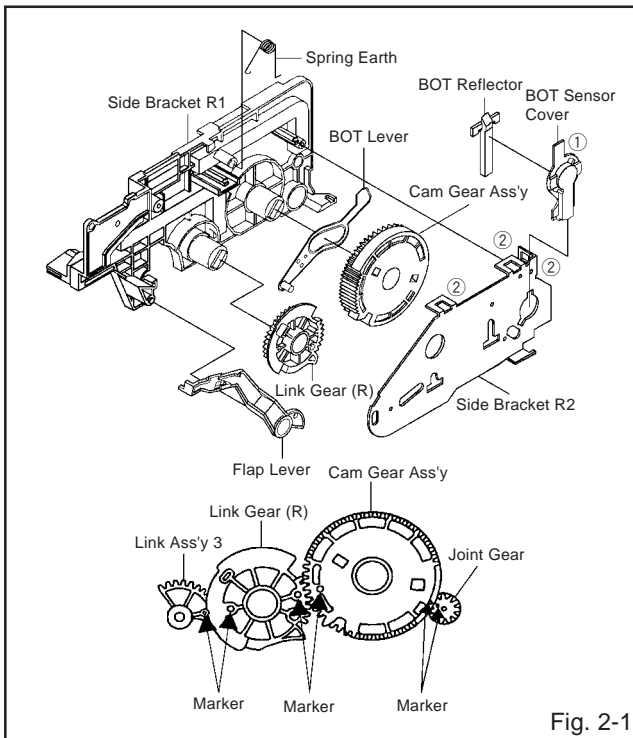

Fig. 2-1
2-1: LINK GEAR (R) / CAM GEAR (Refer to Fig. 2-1)
1. Unlock the support ①.
3. Unlock the 3 supports ②.
5. Remove the Flap Lever, Link Gear (R) , Cam Gear Ass'y and BOT Lever.